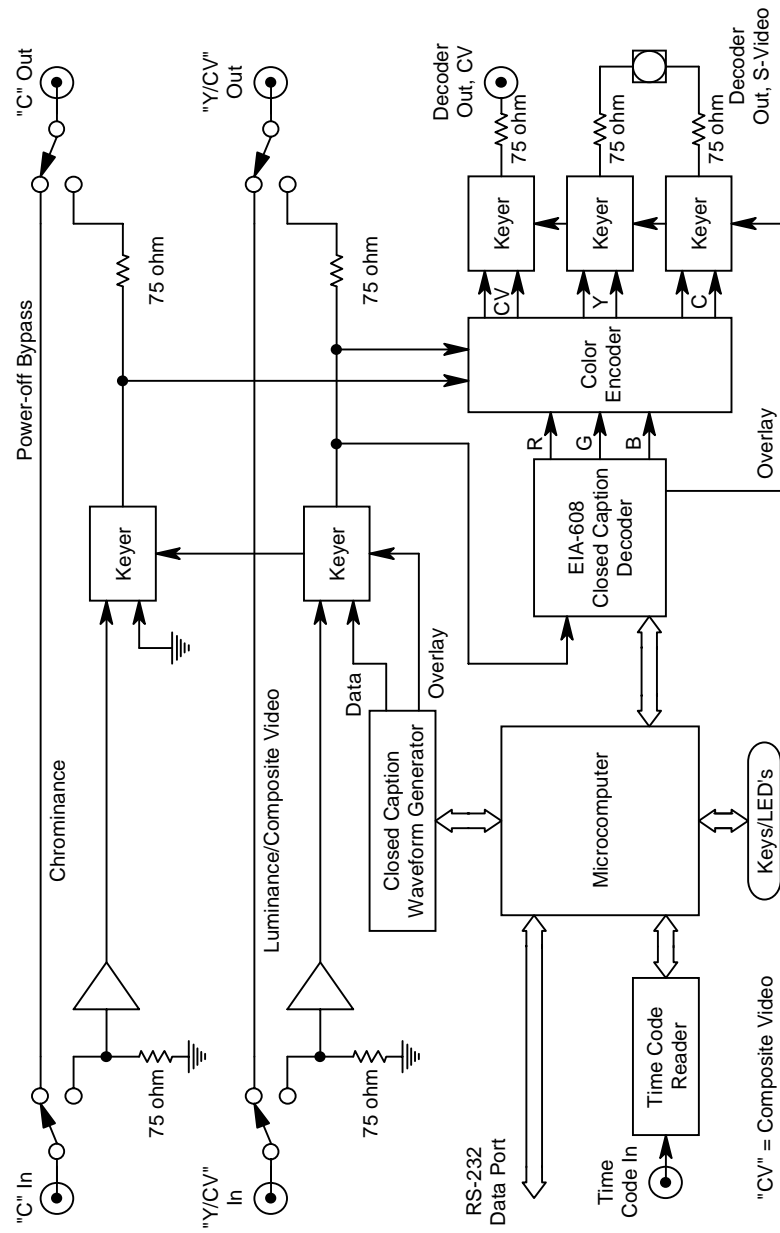

Fig. 5-1. Block diagram
5.1 Theory of operation (refer to Fig. 5-1 Block Diagram)